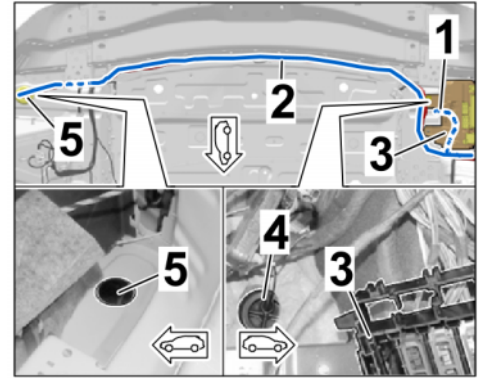

Figure 20
3.2.4 Rear end plate area and grommet / stopper for boot floor (⇒ *Figure 20*)
- Branch for exhaust flap (left) to grommet / stopper for boot floor, left (beneath fuse box in boot (left) → branch for exhaust flap on the right to rear closing panel → along rear closing panel (⇒ *Figure 20-top-*) → grommet / stopper for boot floor, right.